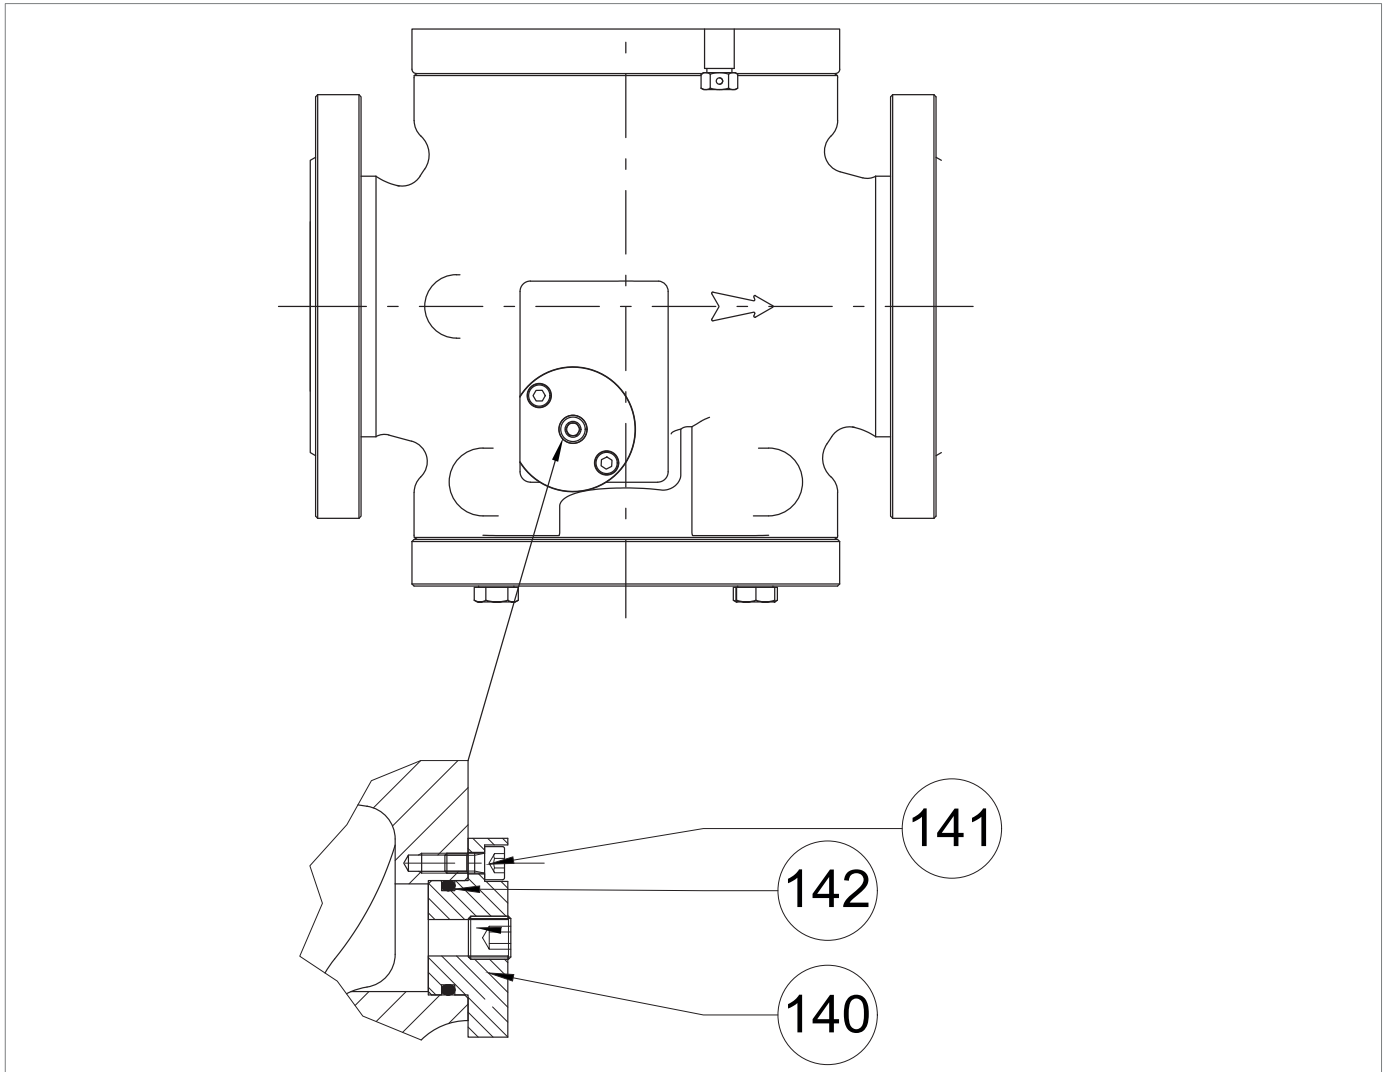

Fig. 9.68. Detail of the regulator cap
If there is no built-in SA slam shut valve, the cap (Fig. 9.68, ref. 140) closes the housing hole for the SA pressure switch (see 9.4.10).